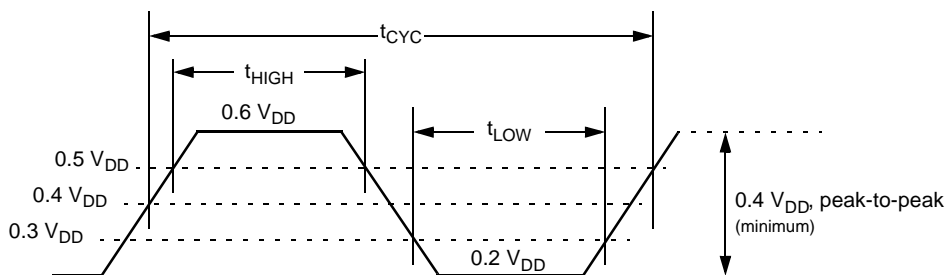

Figure 5-6. 3.3V PCICLK Waveform
- Rise and fall times are specified in terms of the edge rate measured in V/ns. This slew rate must be met across the minimum peak-to-peak portion of the clock waveform as shown in Figure 5-6.